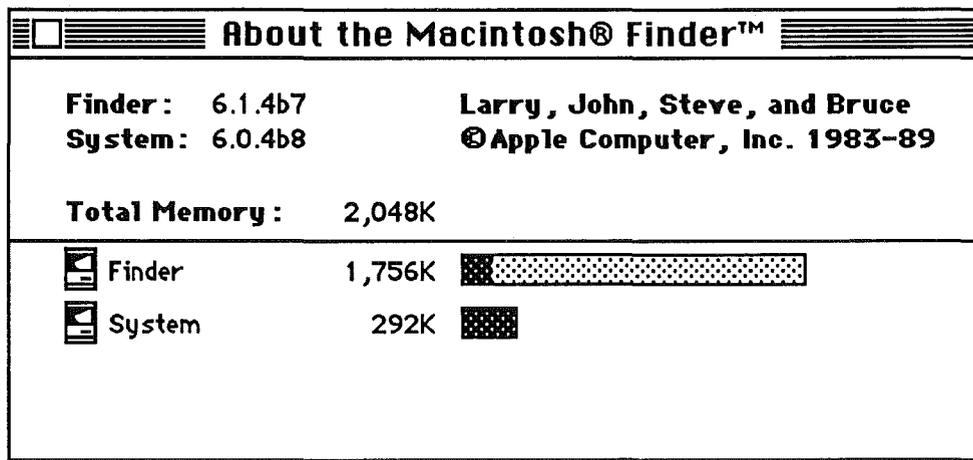

FIGURE 10
3. **Figure 10-A.** Locate the RAM expansion connector.
4. **Figure 10-B.** Position the card over the connector and plug the card in.
2. **Figure 10-C.** Pull down the Apple menu and select **About the Finder**.